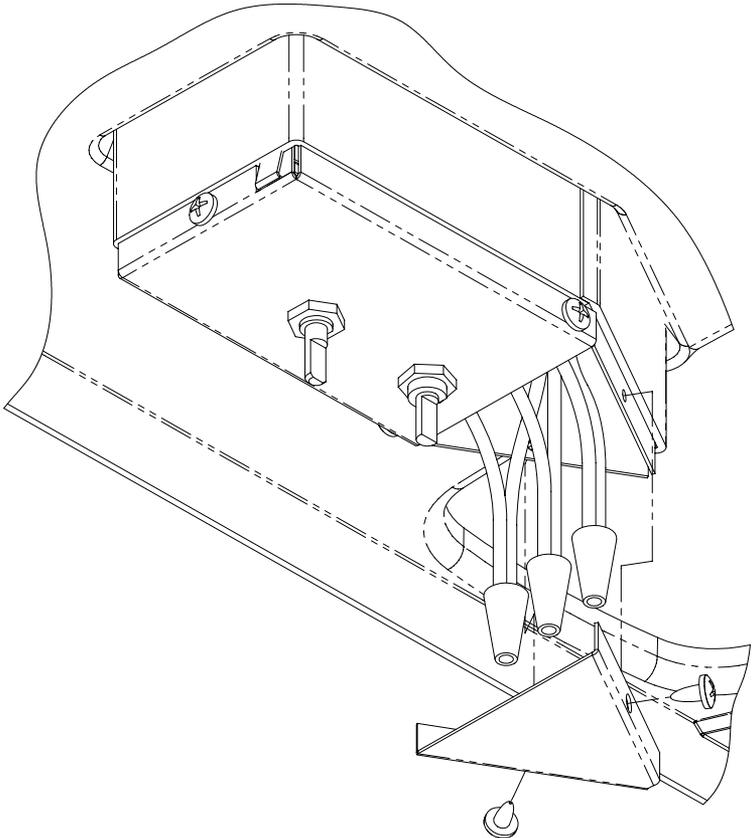

FIGURE 10
- D.** Connect the supply power black conductor to the black pigtail wire, the white conductor to the white pigtail wire and the supply ground conductor to the green pigtail wire found in the wiring box using the 3 provided wire nuts. Using a U.L. approved electrical tape, secure the wire nuts to wires in a workmanlike manner (See Figure 10).
- E.** Press supply conductors and wire nuts into wiring box and making sure no wires are pinched, secure the wire box cover with 2 provided screws (See Figure 10).